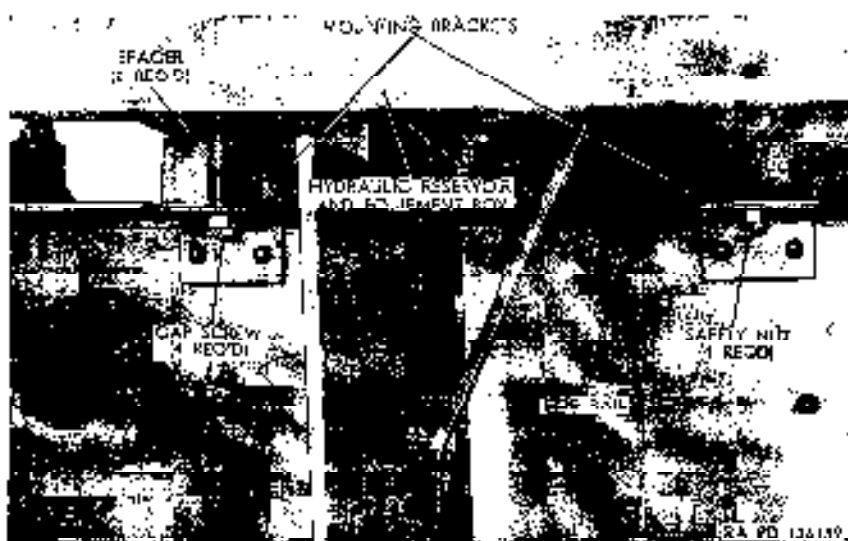

Figure 308. Hydraulic reservoir and equipment box mounted at right side rail.
- (3) Remove four safety nuts (fig. 308), two on each side, securing hydraulic reservoir and equipment box to mounting brackets attached to left and right frame side rails.
- (9) Install four safety nuts (fig. 308), two on each side, on cap screws. Tighten nuts.